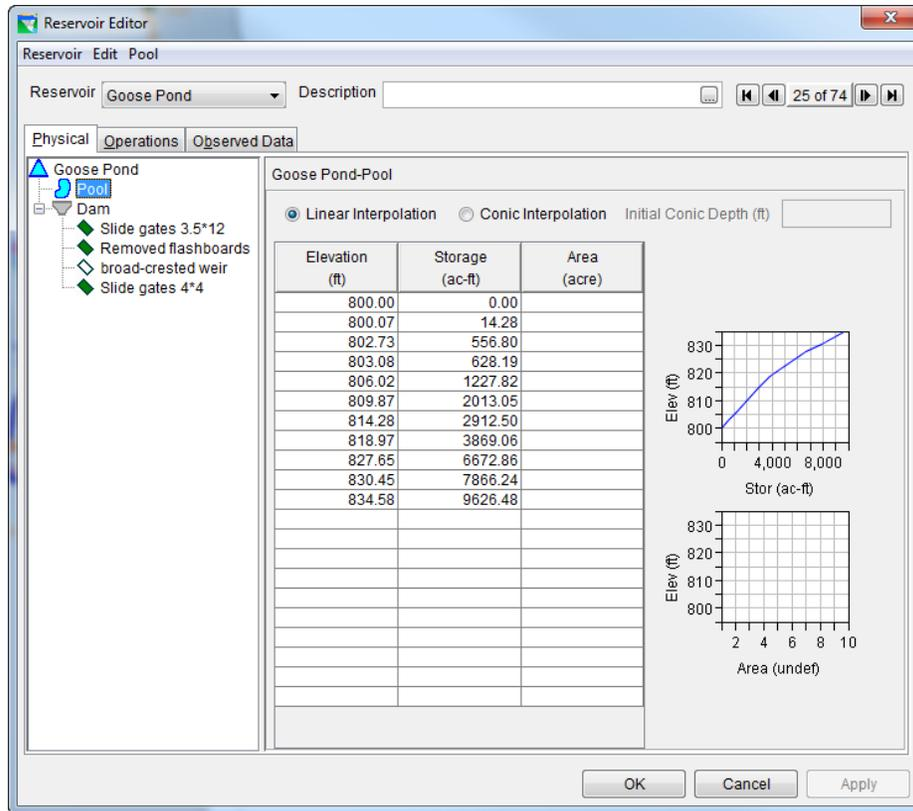
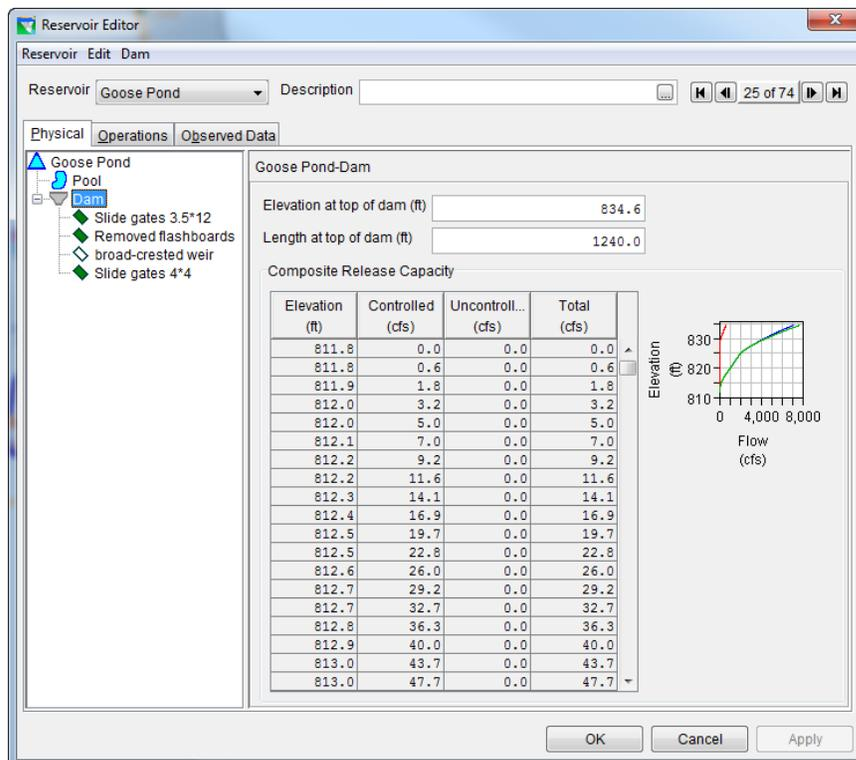

Figure 3: Reservoir Editor: Physical Tab -- Pool
Figure 4: Reservoir Editor: Physical Tab -- Dam
The physical characteristics of the reservoir are separated between the Pool and the Dam in the HEC-ResSim model. The elevation-storage-area defines the pool as shown in Figure 343. The dam consists of four types of outlets: (1) controlled slide gates, (2) controlled flashboard gate, (3) uncontrolled broad-crested weir, and (4) controlled slide gates as shown in Figure 4.